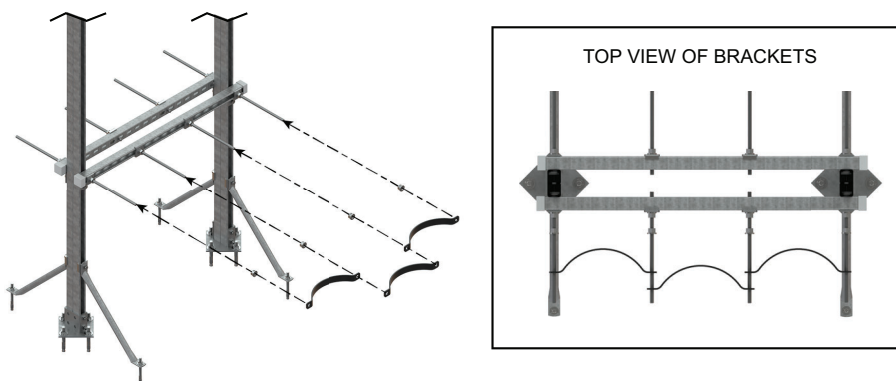

Figure 6.2: Manifold bracket arrangement
1. Arrange the manifold brackets onto the steel rod as shown in Figure 6.2 .